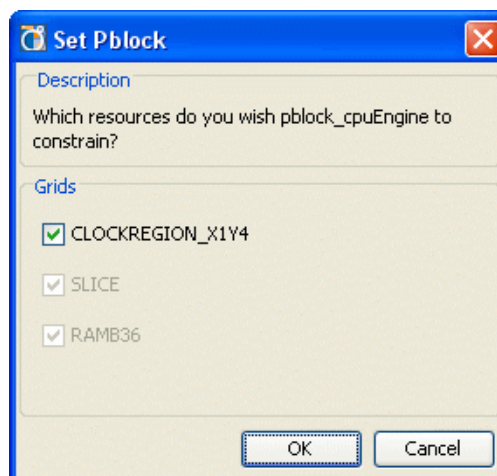

Figure 10-7: Set Pblock Dialog Box to Confirm Pblock as Clock Region
2. In the **Set Pblock** dialog box, select **OK** to define the Pblock range as the clock region (CLOCKREGION\_X), as shown in Figure 10-7.